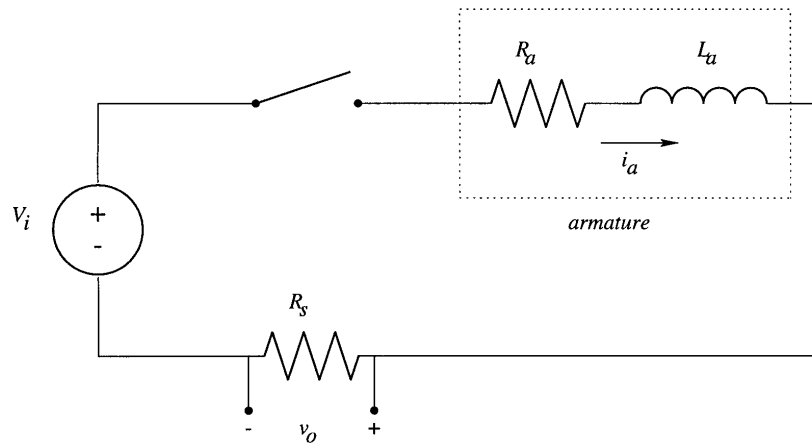

Figure 4.4. Motor Electrical Diagram: Flywheel clamped.
- a. The dc motor, with the flywheel clamped ($\omega = 0$), is described by the electrical schematic of Fig. 4.4. The resistance R_s has been added to obtain voltage measurements, so that the current's time response can be viewed on an oscilloscope. Find $V_o(s)/V_i(s)$ in terms of R_a , R_s , and L_a . What is the electrical time constant, τ_e , for the motor?
- Disconnect the black lead of the power supply and reconnect it to one end of the resistor-box and connect the other end of the resistor box to the black lead on the motor mount. Connect the black lead of the scope to the end of the resistor box connected to the power supply and the red lead of the scope to the other end of the resistor-box. (Now the circuit is that of Fig. 4.4.)